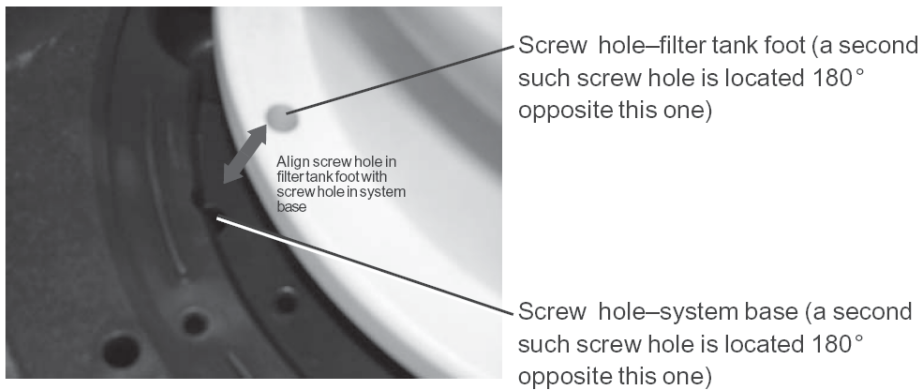

Figure 3.
- F. The system base provides screw holes that align with the screw holes in the foot of the filter tank. See Figure 3.